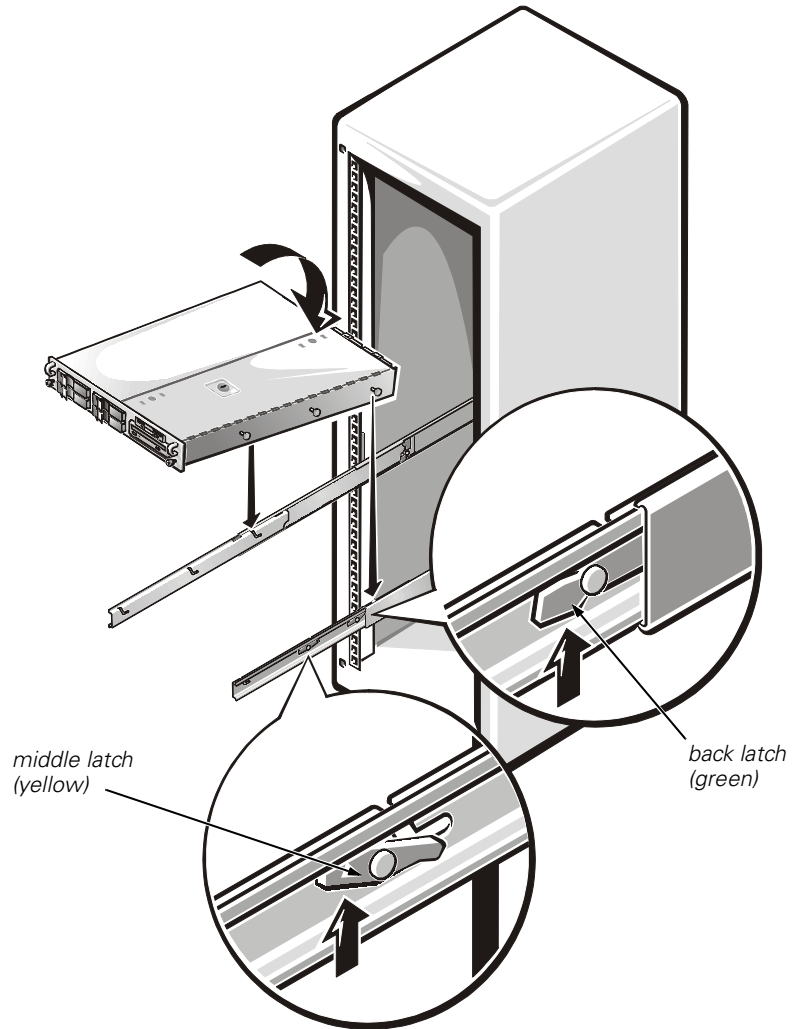

Figure 1-10. Installing the System in the Rack
| Figure 1-10. Installing the System in the Rack | 1-12 |
4. Tilt the system while aligning the back shoulder nuts on the sides of the system with the back slots on the slide assemblies (see Figure 1-10).
- Push the system inward on the slide assemblies until the middle (yellow) latch clicks into place, locking the slide to the middle shoulder nut (see Figure 1-10).